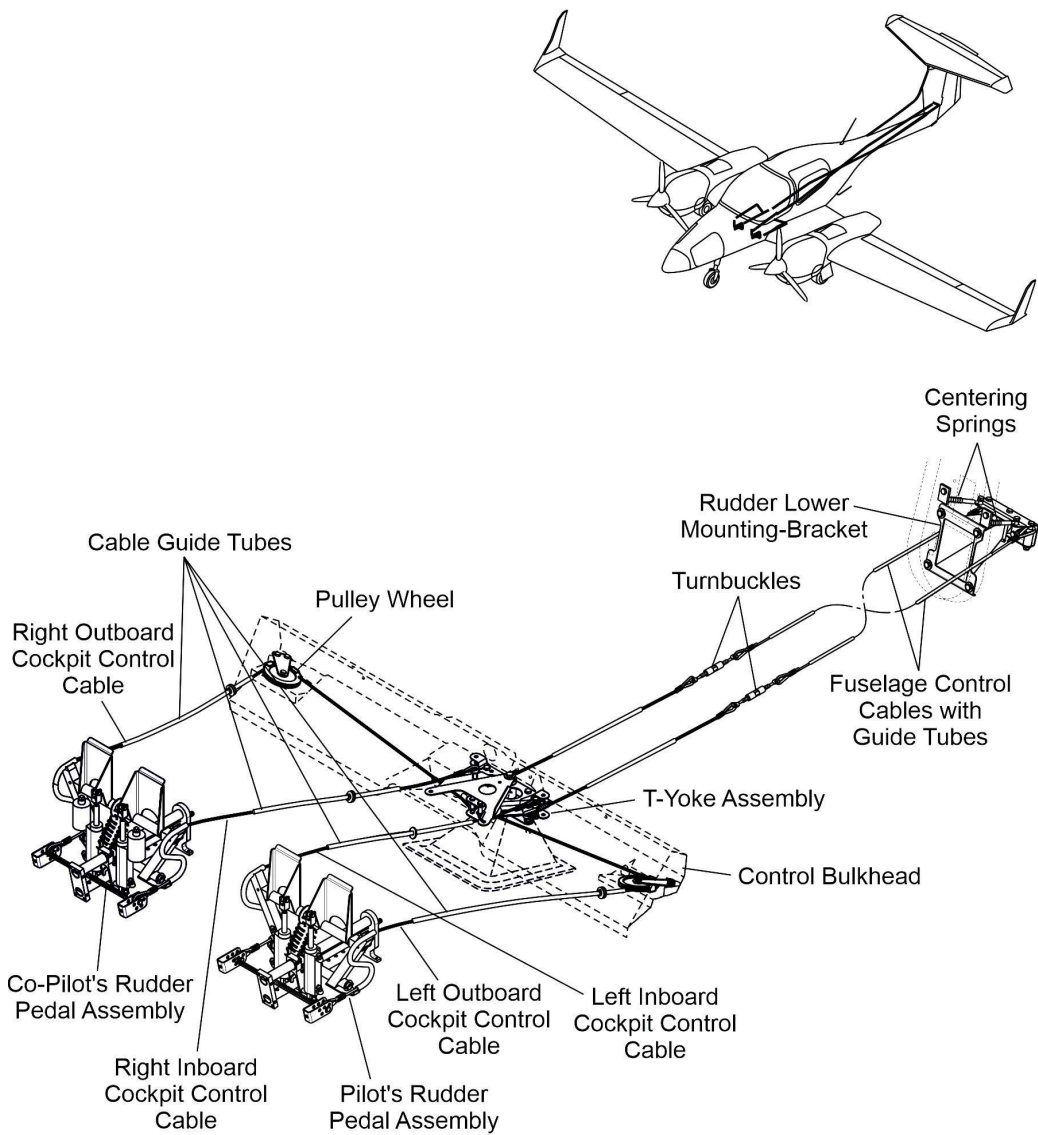
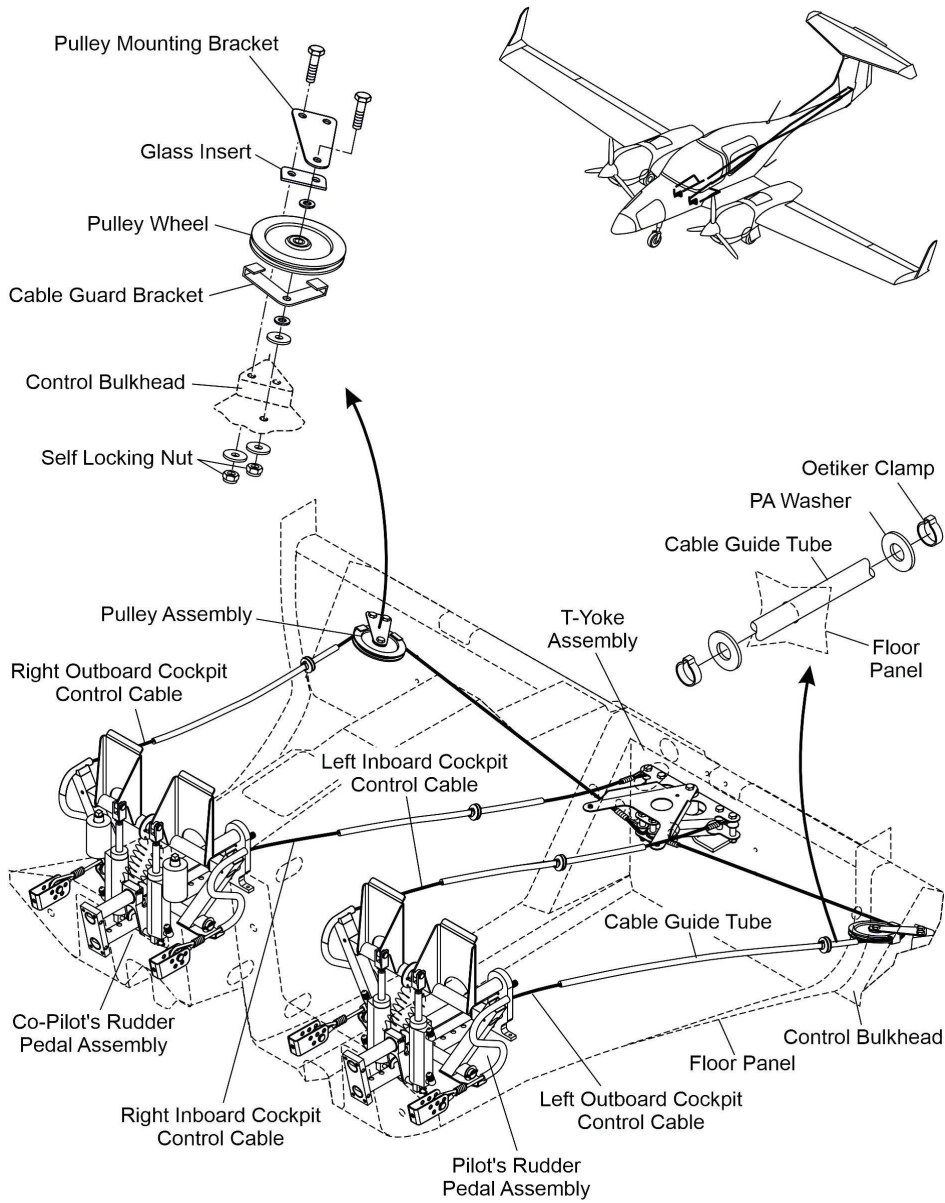
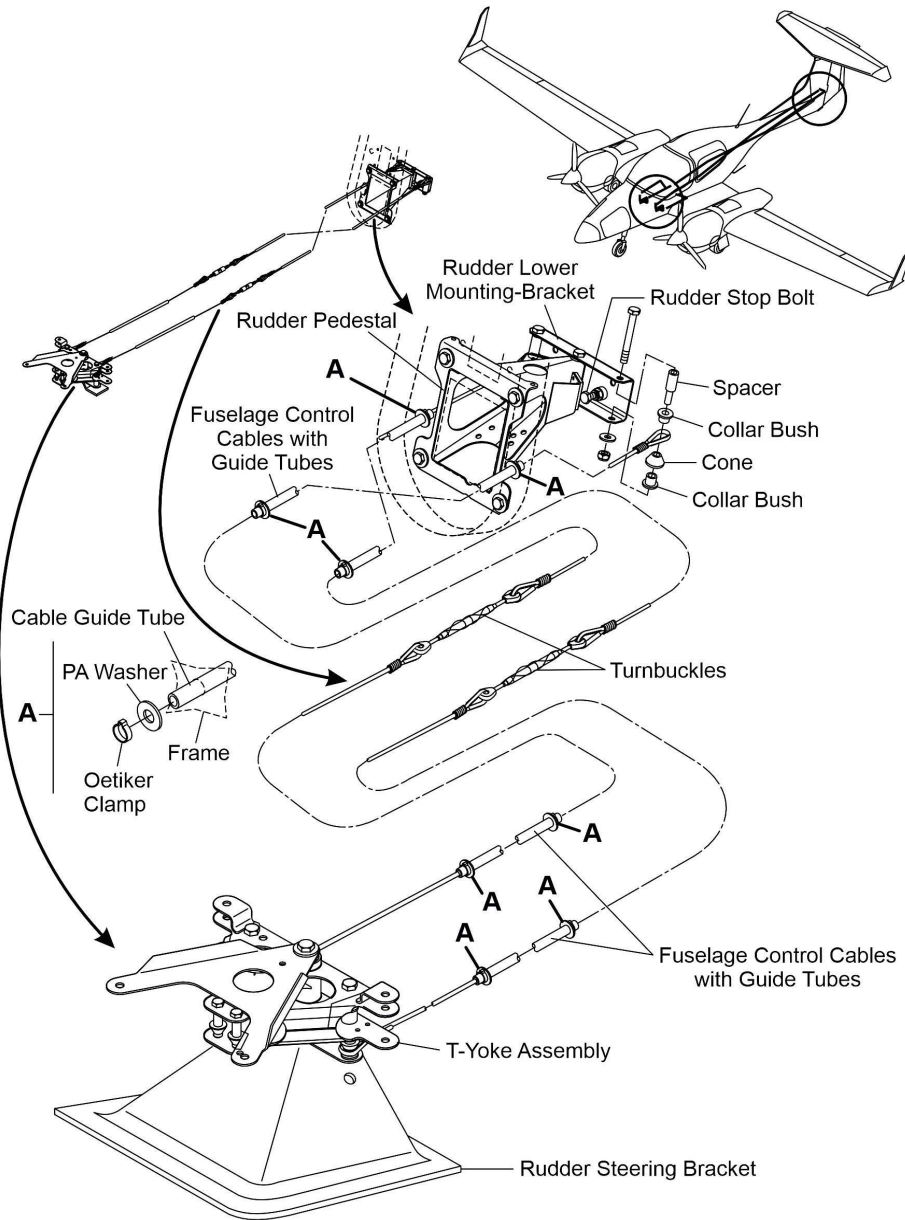

Figure 1: Rudder Control System
Figure 4: Rudder Controls in Cockpit
Figure 5: Rudder Controls in the Fuselage
Figure 1 is amended to read:
Figure 1 shows the rudder control system. Figure 2 shows the rudder pedal assembly with manual pedal adjustment. Figure 3 shows the rudder pedal assembly with electrical pedal adjustment (optional equipment, OÄM 42-070). Figure 4, 4A and 4B show the rudder control in the cockpit and Figure 5 shows the rudder controls in the fuselage. The system has these components:
The rudder stop which limits the rudder deflection to the left side is located left of the lower rudder hinge (Figure 4). The rudder stop which limits the ruder deflection to the right side is located right of the rudder lower hinge. Each rudder stop consists of a nut which is welded to the rudder lower mounting-bracket and a bolt which is held tight in the nut by a jam nut.
Figure 4 is amended to read:
Figure 5 is amended to read:
(3) Remove the cable between the turnbuckle and the rudder: – Remove the nut, washer, bolt, collar bush, cone with pressed-in collar bush and spacer that attach the cable to the rudder lower mounting bracket. – Cut the eye end from the cable that you will remove at the rudder end. – Remove the old cable forward. – Cut the eye end from the cable that you will remove at the turnbuckle.	Refer to Figure 5.